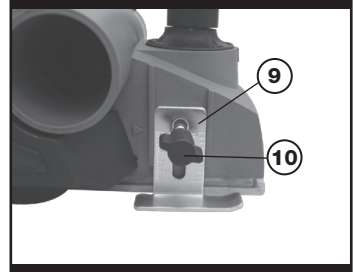

Fig. 7
6. USING THE REBATE GUIDE (See Fig.7)